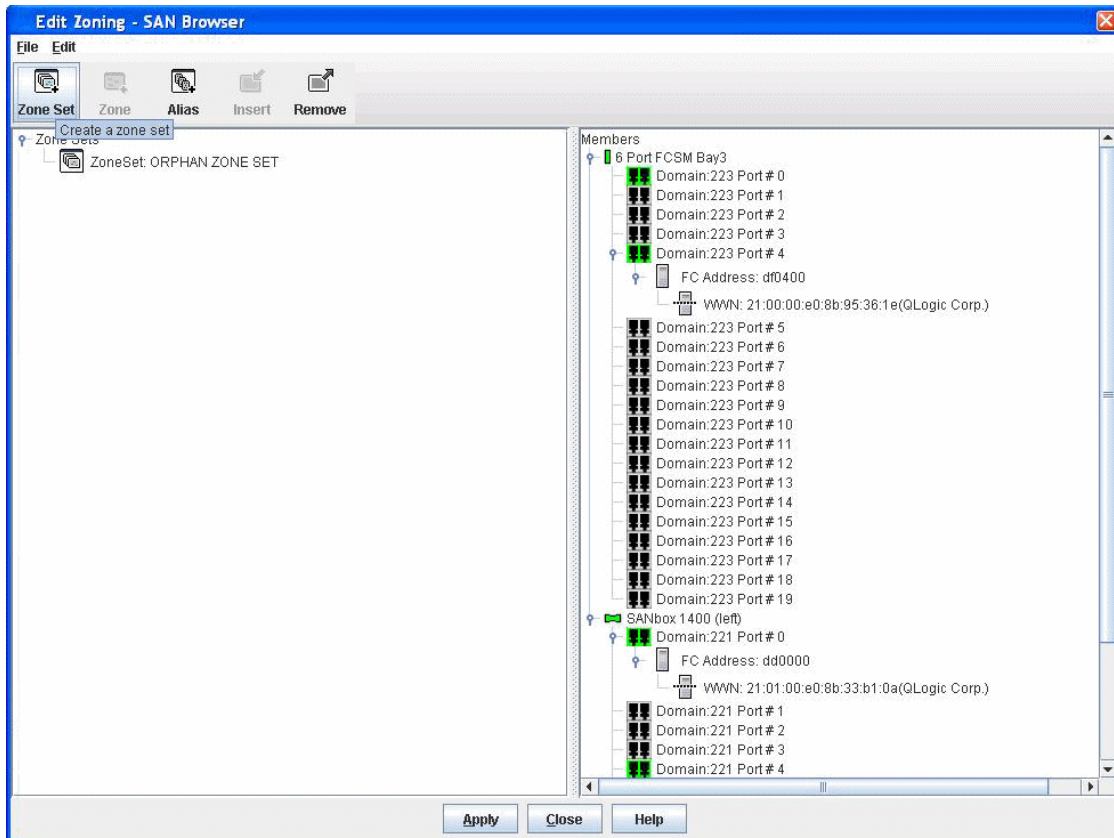
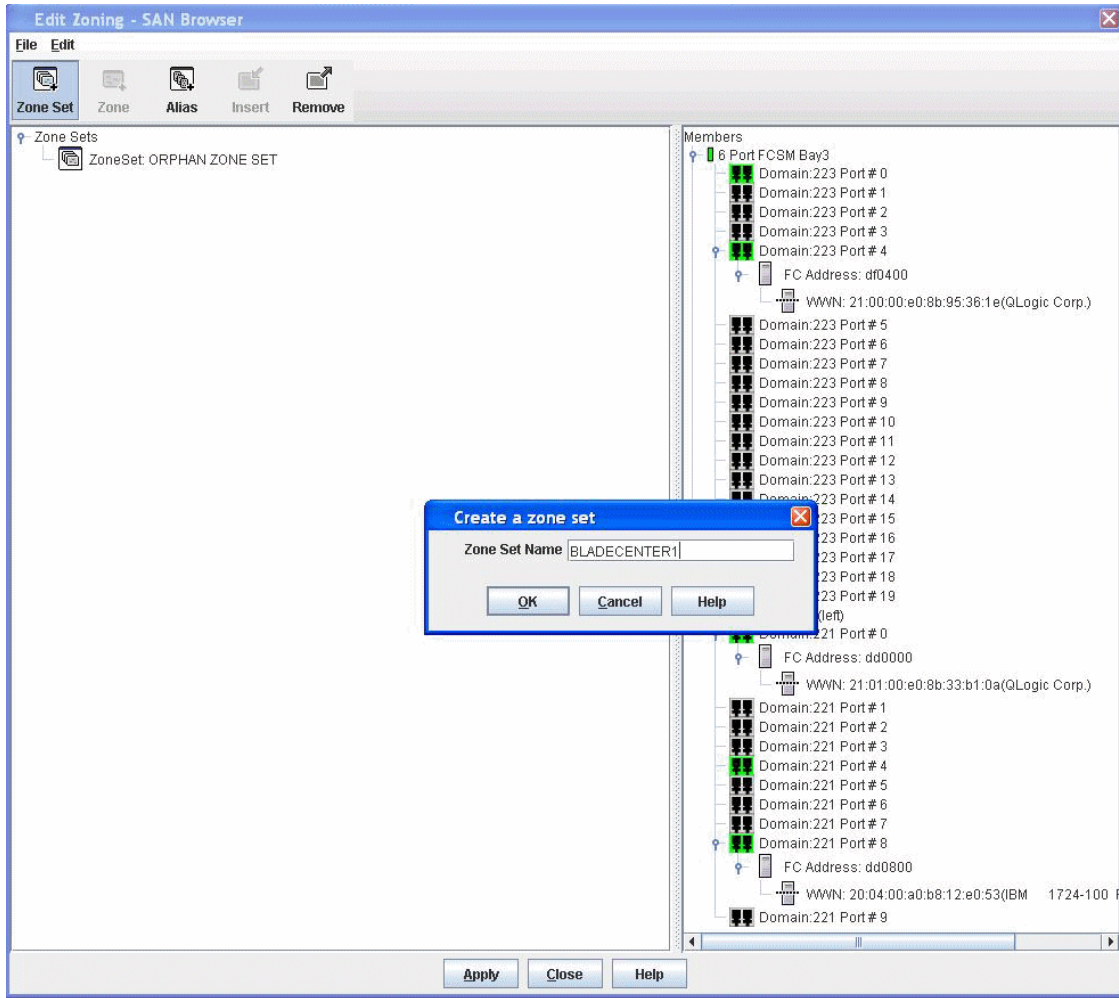

Figure 9-19 Create zone set window
Figure 9-20 Creating BladeCenter1 zone set window
7. From the Edit Zoning dialog window (Figure 9-19), click **Zone Set** → **Create a zone set**. You will see a window similar to Figure 9-20 on page 294.